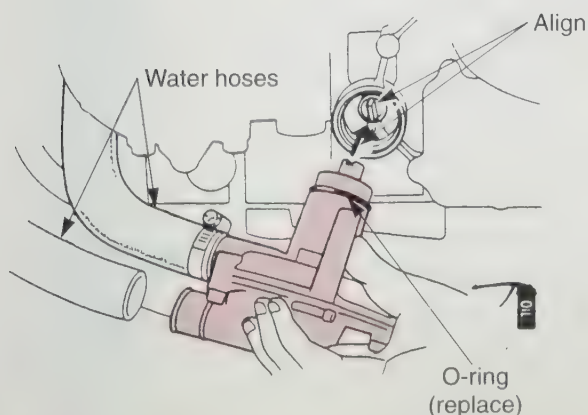

Figure 11-18. Reinstalling a coolant (water) pump. (Honda Motor Co., Ltd.)
3. Install a new O-ring on the water pump. Then align the water pump shaft groove with the water pump drive shaft and install the water pump. See **Figure 11-18**.